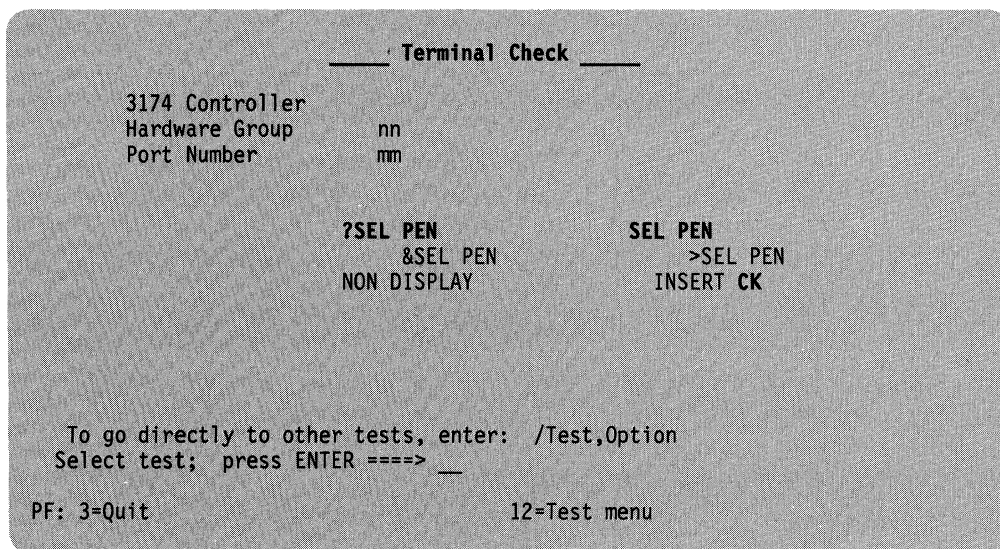

Figure 3-2. Test 0: Example of a Terminal Check Screen
3. Press **Enter**. The test pattern shown in Figure 3-2 is displayed.